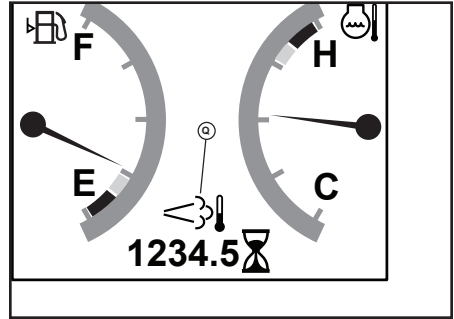

Fig. 46 - Reset Regeneration In Progress
When reset regeneration occurs, the DPF in-progress (elevated temperature) symbol (Q, Fig. 46) displays on the screen.
**NOTE:** *DPF in-progress (elevated temperature) symbol (Q, Fig. 46) will not be displayed when reset regeneration is inhibited.*